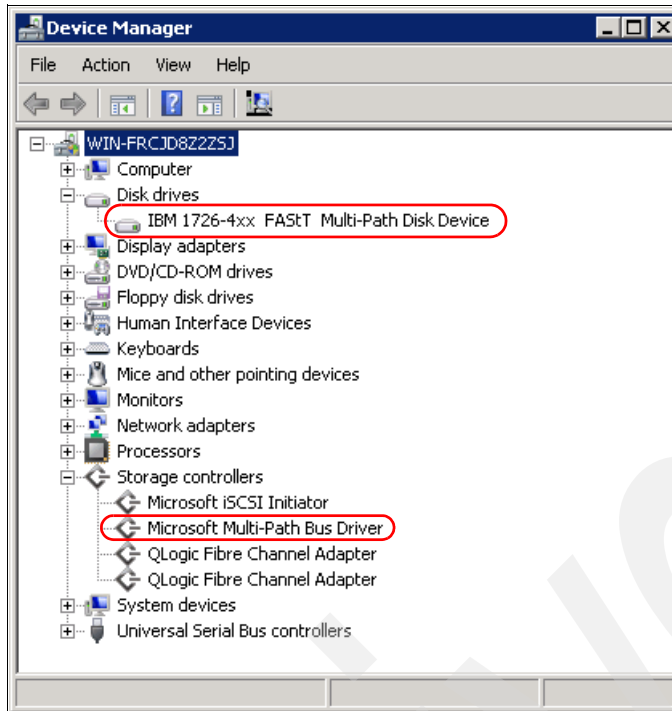

Figure 27-41 Confirming Multi-Path driver
3. In the Windows Device Manager, we can now also confirm the presence of the IBM 1726-4xx Multi-Path disk device as well as the Multi-Path Bus Driver, as shown in Figure 27-41 on page 707.